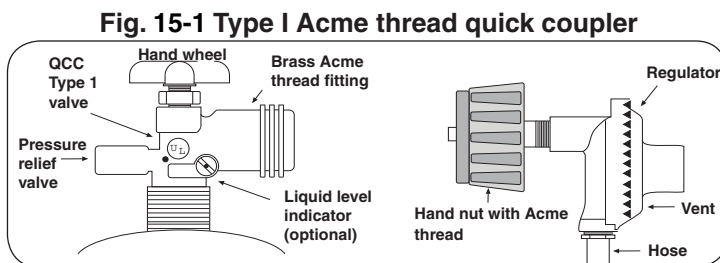

Fig. 15-1 Type I Acme thread quick coupler
- The pressure regulator and hose assembly (Fig. 15-1) supplied with this outdoor gas appliance (L.P. models only) must be used. Original and replacement pressure regulator and hose assemblies must be those specified by the manufacturer for connection with a cylinder connecting device identified as Type I by the *ANSI Z 21.58-2005/CGA 1.6-2005* (see PARTS LIST for ordering information).
To disconnect: Turn the hand nut counterclockwise until detached (Fig. 15-1).